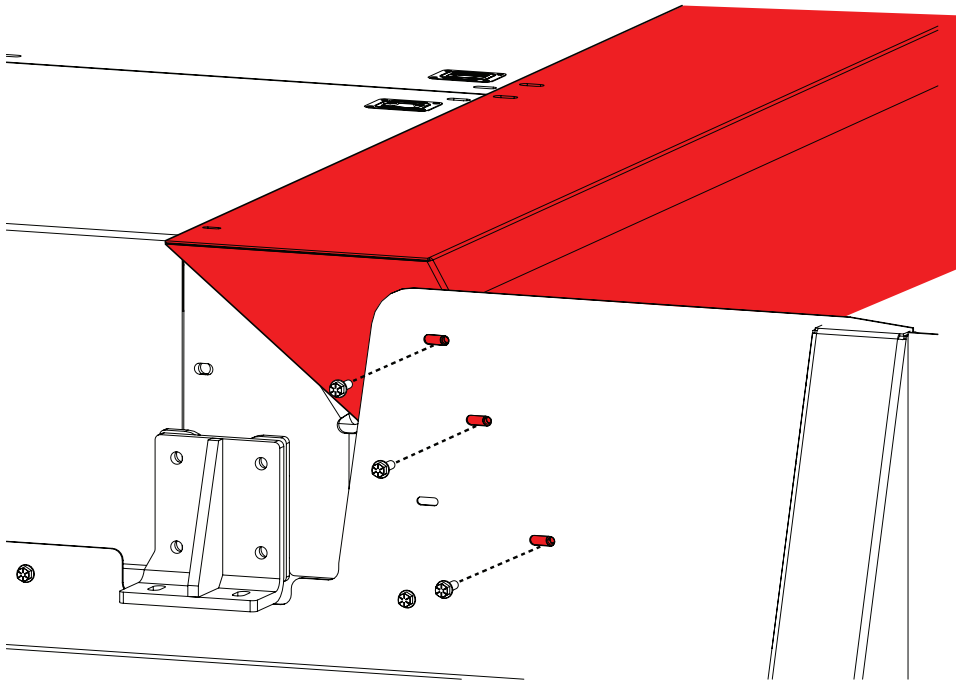

Figure 3
6. Install (3) bolts (PN 1243637) to attach the weldment to the vehicle windguard (Figure 3).